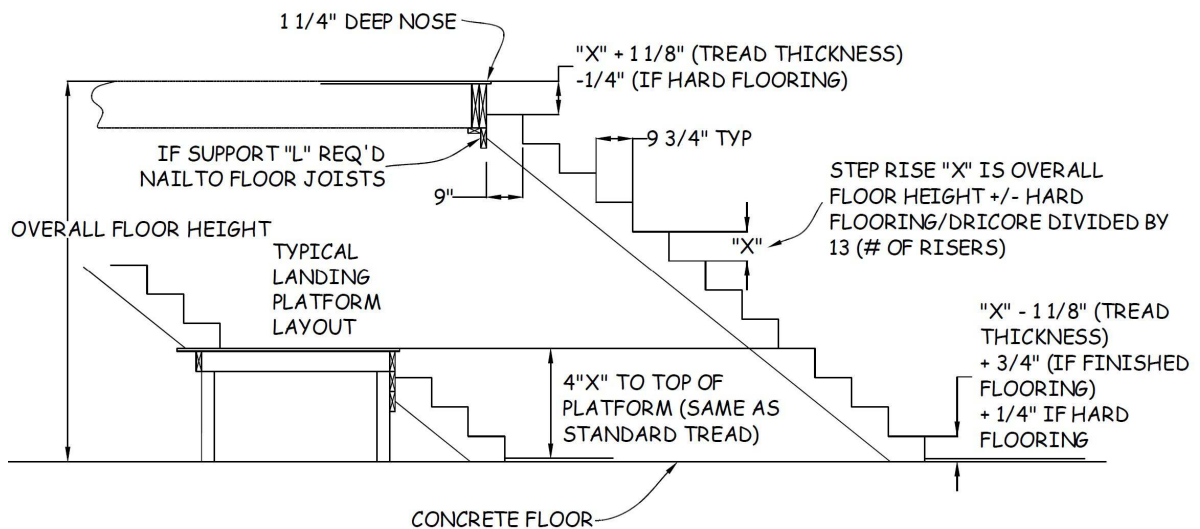

Figure 4-7. Stair Stringer Installation.
4. Reduce the height of the last rise at the bottom of the stringer by $1/8$ " (the thickness of the tread), unless the basement floor is to be finished. If the basement floor is to be finished, reduce the height of the rise by only $3/8$ ". This will accommodate the $1/8$ " thickness of the tread and the $3/4$ " thickness of the DRICore (see Figure 4-7).
12. Use the last calculation in Figure 4-5 (Top Step Rise) and measure that distance down from the underside of the deck. Make a line on the stairwell framing at this point. This line marks the location of the tops of the three stringers (Figure 4-7).
1. A landing, if required, is a "joist" box made of 2x6's covered with ¾" floor decking with floor joists installed on 16" centers (see Figure 4-7).